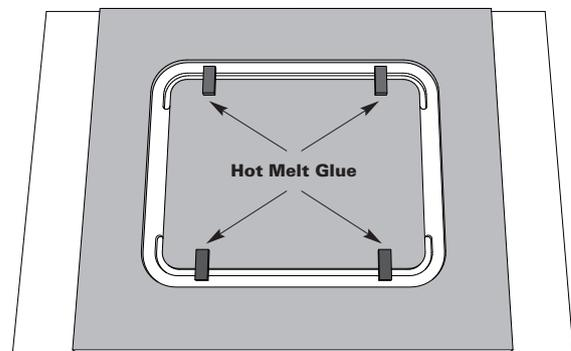

Figure D-1
4. The cut-out area has to be correctly supported to avoid the waste material plug dropping before the cut is complete, as this can cause a crack in the sheet. If no support under the cut-out is possible, rout a partial cut-out on opposite edges, apply some stop blocks on the top with hot melt glue overlapping the cut-out line, then complete the cut-out (see Figure D-1).